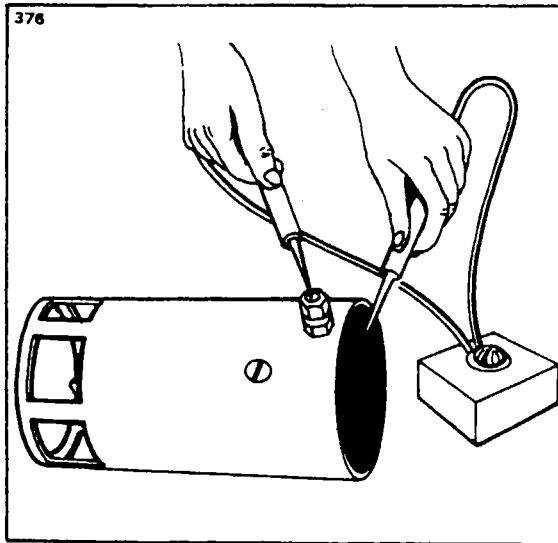

Figure 11-42. Testing Motor Fields for Grounds
a. Check the field coils for grounds (Refer to Figure 11-42 .) by placing one test probe on the frame and the other on the starter terminal. Be sure the brushes are not accidentally touching the frame. If the lamp lights, the fields are grounded. Repair or replace.